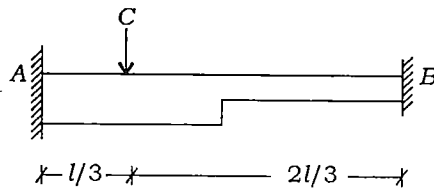

Fig. 6
3. (a) A beam of span  $l$  fixed at both ends has to carry a point load at a distance  $l/3$  from the left end as shown in Fig. 6. Find the values of load at the collapse condition if the plastic moment of resistance of the left half of the beam is  $2 M_p$  while the plastic moment of resistance of the right half of the beam is  $M_p$  :